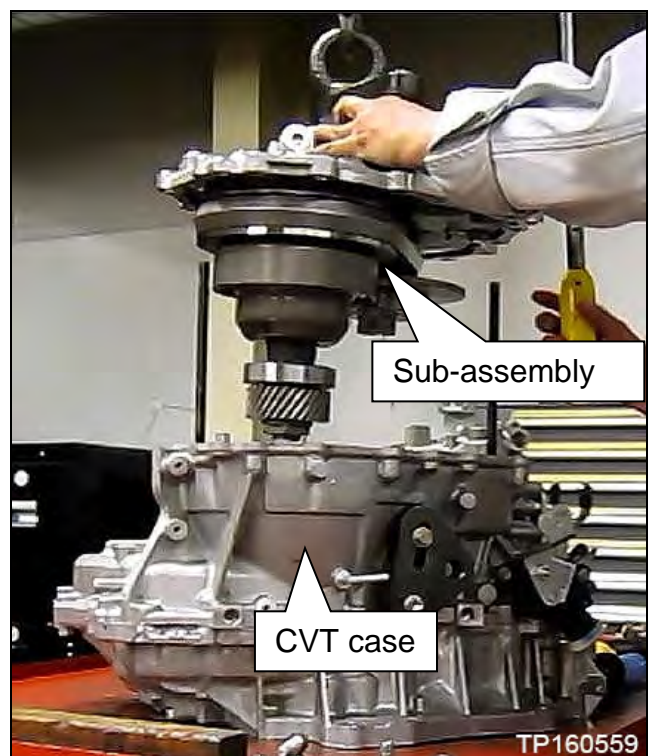

Figure 19F
15. Raise the Lifting Fixture to remove the “side cover with pulleys and belt sub-assembly” (sub-assembly) from the CVT case (Figure 19F).